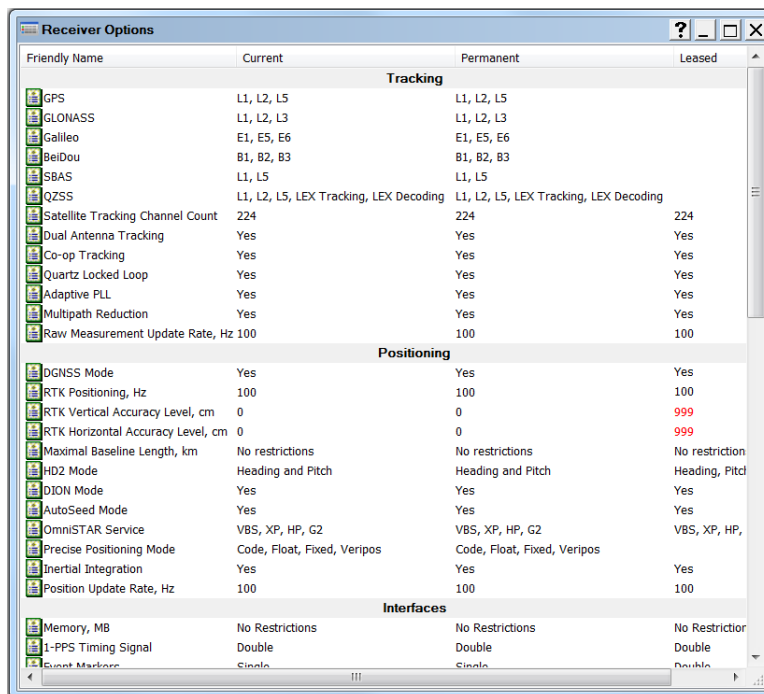

Figure 56: Receiver Options
9. In the **Receiver Options** screen (Figure 56), ensure the following are correct: